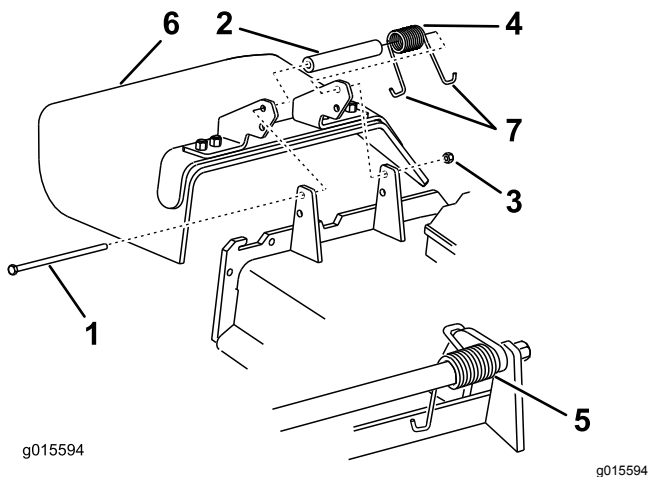

Figure 104
1. Remove the locknut, bolt, spring, and spacer holding the deflector to the pivot brackets (Figure 104).
Note: Ensure that a J-end of spring is installed behind deck edge before installing the bolt as shown in Figure 104.
5. Place a J-hook end of spring around grass deflector (Figure 104).